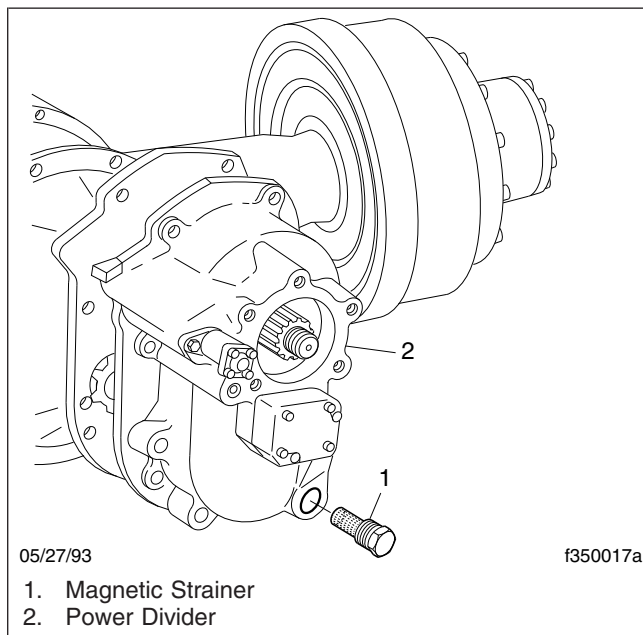

Fig. 8, Dana Spicer Tandem-Drive Axle Magnetic Strainer
- 4.1 Remove the magnetic strainer from the power divider cover. See Fig. 8.